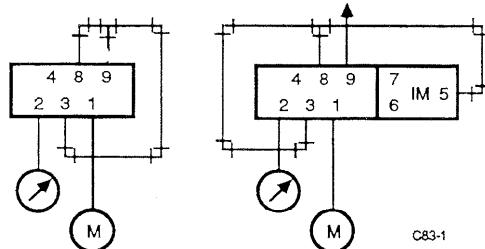

Fig. 5. Connections for Operating Point Check-RP920A and B.
1. Pipe the connections (Fig. 5). Install Barb Fitting 14003755-001 in Port 8 and in the top of the integral module. Connect the mainline to the integral module. This procedure requires 20 psi (138 kPa) minimum MLP.